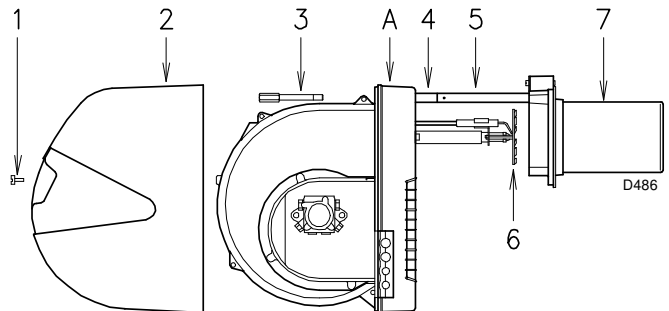

Fig. 34
- Remove screw 1 and withdraw the casing 2)(Fig. 34)
- Unscrew screw 3)(Fig. 34)